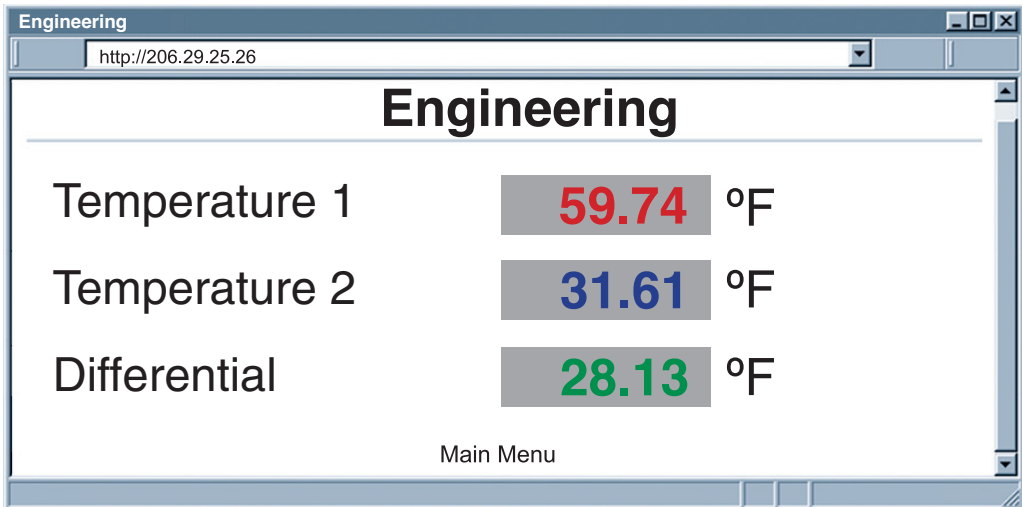

Figure 4.7 Read Sensor
- Click on Read Sensor. In a few seconds the following page (**Figure 4.7**) will appear with all default values of 100.00. Then the actual readings for both temperature sensors and differential value will be displayed. If either thermocouple sensor is disconnected from the iServer unit the “Read Sensor” and “Chart” pages will display “OPEN” and the “Differential” value will be displayed as “N/A”.